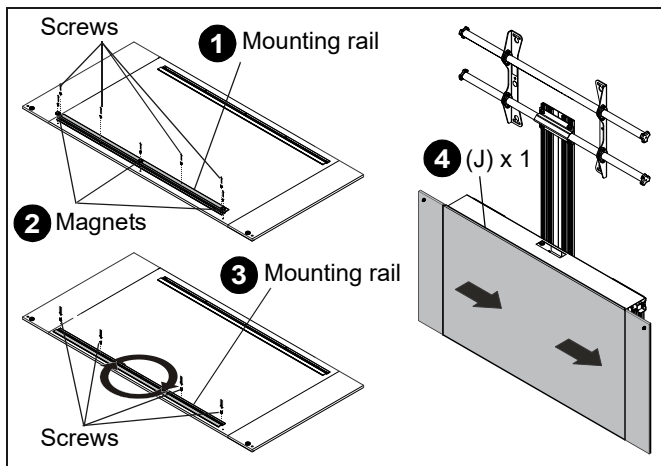

Figure 28
1. Remove the large cover (J) from the storage box (H).
2. Remove the upper three magnets from the large cover (J).
3. Remove the four outside screws securing the upper mounting rail from the large cover (J). Rotate the mounting rail 180 degrees and reinstall to the cover. (See Figure 28)